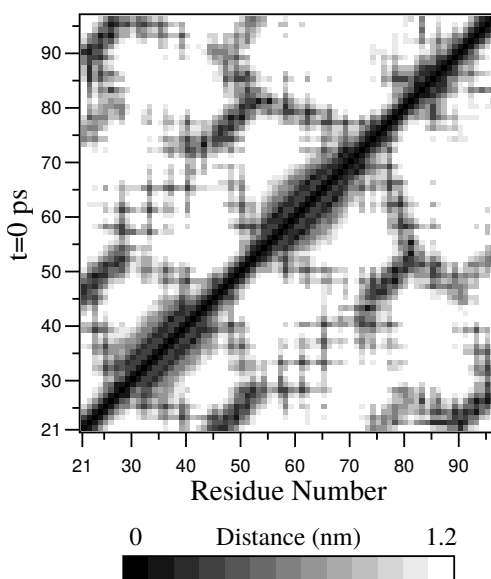

Fig. 5.58: A minimum distance matrix for a peptide *168* (page 545).
- To monitor the *minimum distances between amino acid residues* within a (protein) molecule, you can use the program *gmx mdmat* (page 185). This minimum distance between two residues  $A_i$  and  $A_j$  is defined as the smallest distance between any pair of atoms ( $i \in A_i, j \in A_j$ ). The output is a symmetrical matrix of smallest distances between all residues. To visualize this matrix, you can use a program such as *xv*. If you want to view the axes and legend or if you want to print the matrix, you can convert it with *xpm2ps* (page 257) into a Postscript Fig. 5.58.